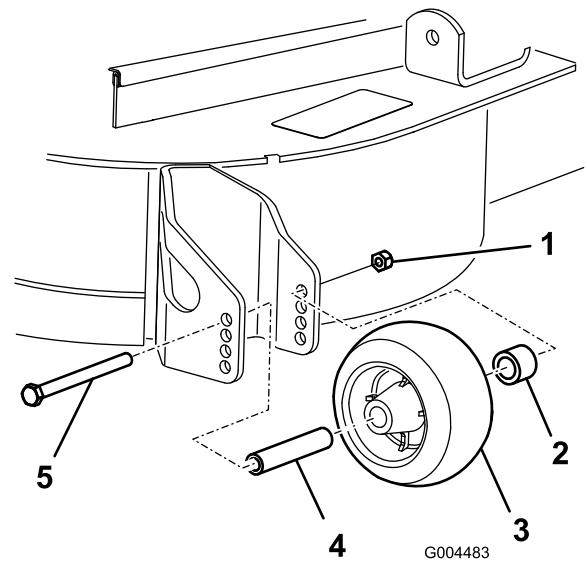

Figure 18
- After adjusting the height-of-cut, adjust the rollers by removing the flange nut, bushing, spacer, and bolt (Figure 18).
- Install the flange nut, bushing, spacer, and bolt. Torque to 54-61 N·m (40-45 ft·lb) (Figure 18).